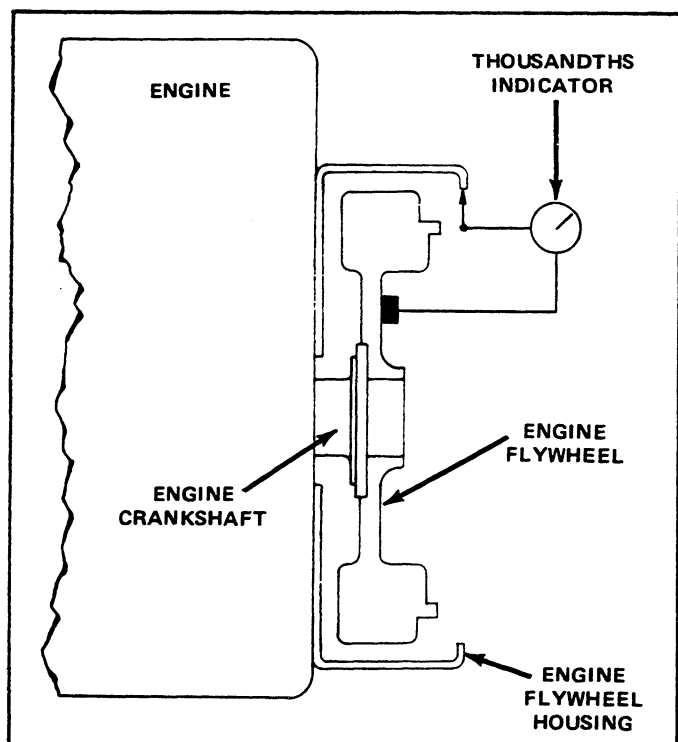

Figure 9-9. Checking the Bore of Engine Flywheel Housing.
3. With the indicator mounted as in the above paragraph, adjust the indicator stem so that it will ride on the bore of the engine flywheel housing. See Figure 9-9.